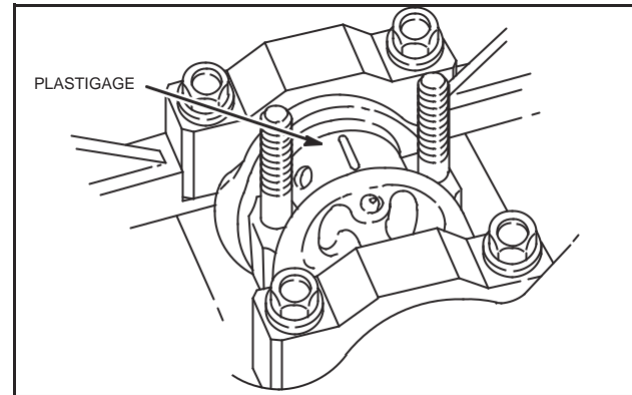

Fig. 7 – Install Plastigage
- a. Lay a strip of plastigage lengthwise on journal, Fig. 7.